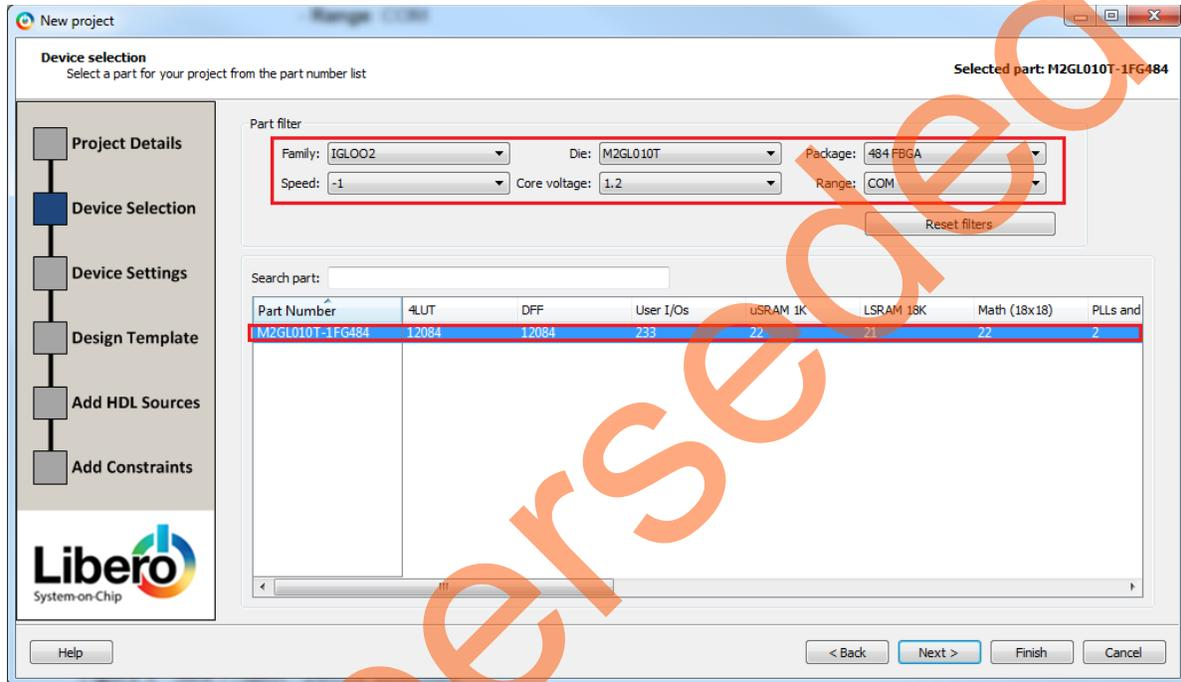

Figure 4 • New Project - Device Selection
4. Select the following values using the drop-down list for **Device Selection** as shown in Figure 4 and click **Next**.